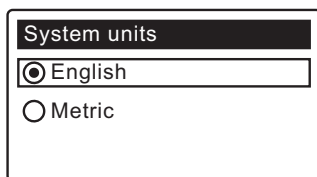

FIG. 14
- 3. SYSTEM UNITS** If the desired system already has a black dot next to it (See Figure 14), go to Step 4. Otherwise, press the DOWN (▼) or UP (▲) buttons to scroll to the desired system, then press the SELECT (○) button to choose it.